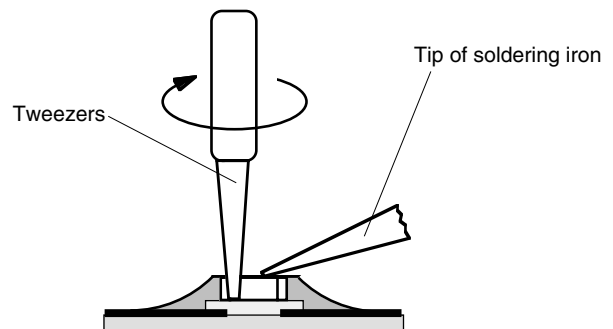

Fig. 2
2. step: Warm up the ends of the CHIP or the whole CHIP component and remove the CHIP from the adhesive by turning it without application of force so that the tracks beneath the CHIP do not break (Fig. 2).